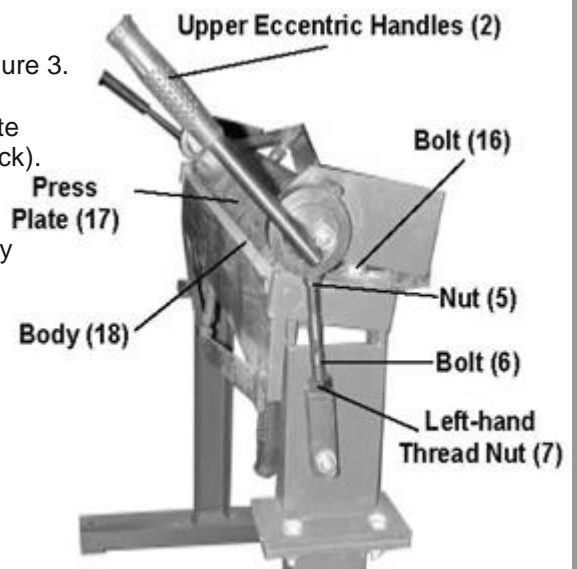

Figure 3
2. Loosen Nuts (7 and 5) to enable Bolt (6) to move up or down. See Figure 3.
4. Adjust the Bolts with equal number of turns. The Press Plate Assembly (17) must be flush with the Body (18) when closed. If one side is not flush, readjust the side.